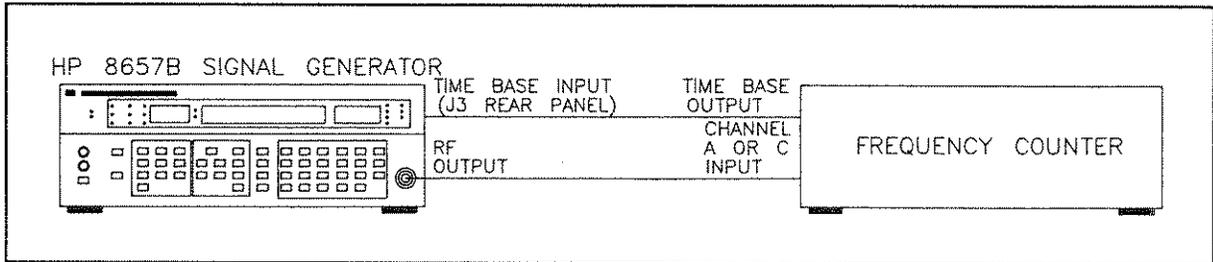

Figure 4-9. DC FM Test Setup
26. Connect the RF OUTPUT from the HP 8657B to the INPUT of the frequency counter, and connect the HP 8657B TIME BASE INPUT to the Frequency counter TIME BASE OUTPUT as shown in Figure 4-9.